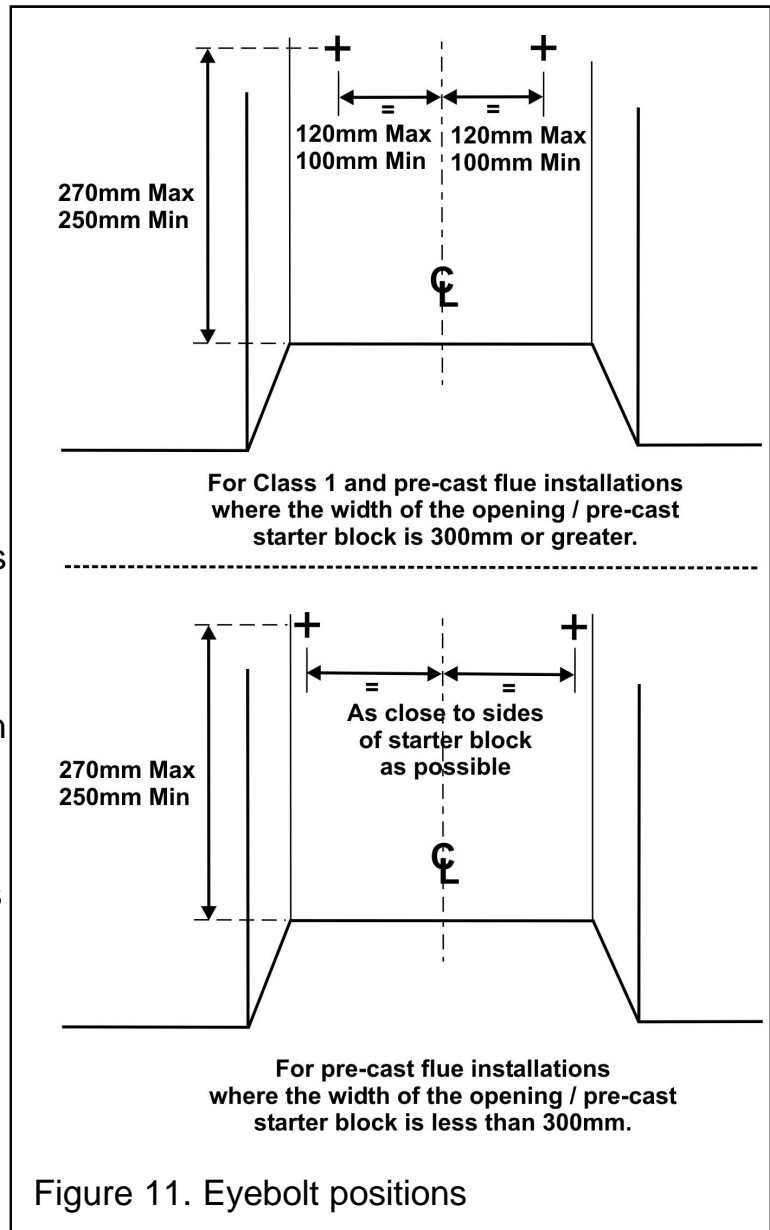

Figure 11. Eyebolt positions
2. Drill two holes in the rear wall of the fireplace for the wall plugs. The holes should be drilled within the range of positions shown in figure 11 using a suitably sized masonry drill for the wall plugs supplied. The holes should be equidistant each side of the centre line of the fireplace to ensure that the appliance finishes centrally in the opening when tension is applied to the cables.